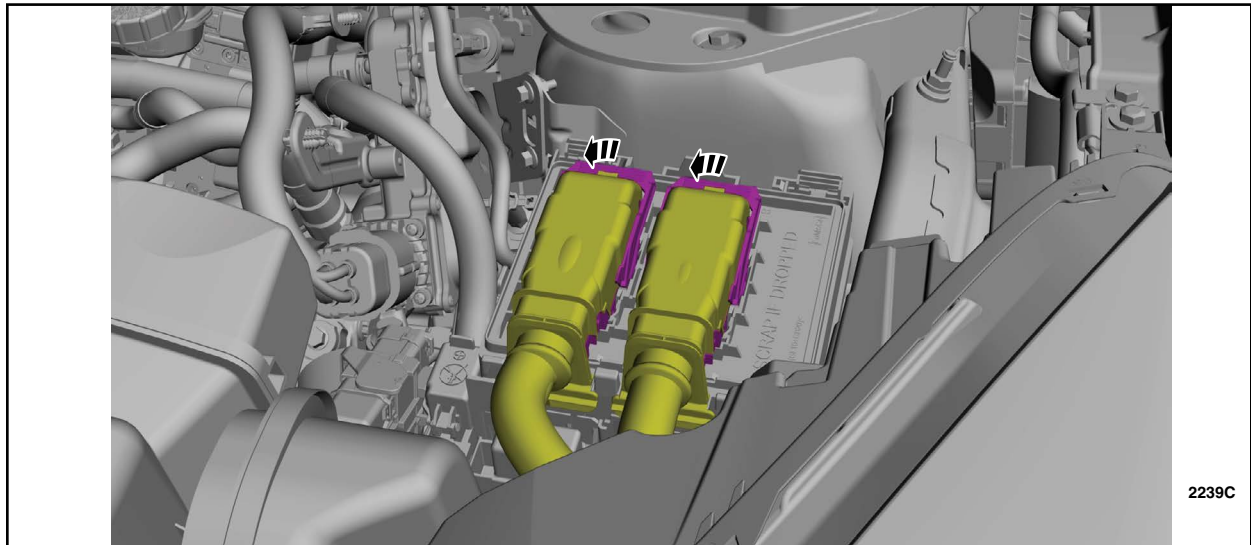

FIGURE 3
7. Disconnect the battery junction box electrical connectors. See Figure 3.